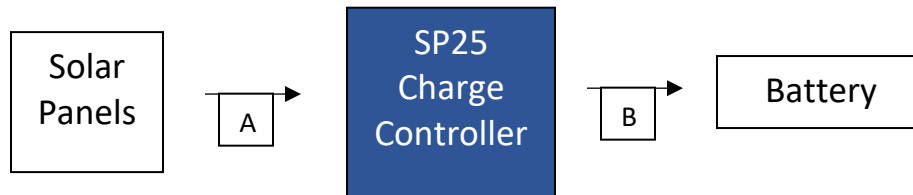

Figure 1- SP25 shown in complete system view.
1. Read/Write to set the output for 12V, or 24V mode. This changes line B on Figure 1.